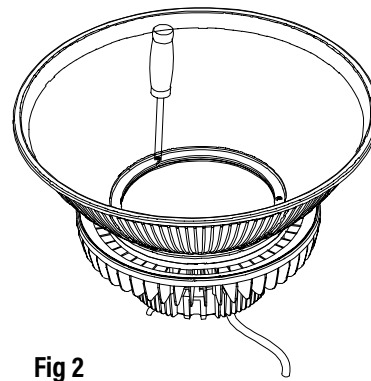

Fig 2
2. Tightening the screws completely to secure the reflector to the fixture. (Fig. 2)